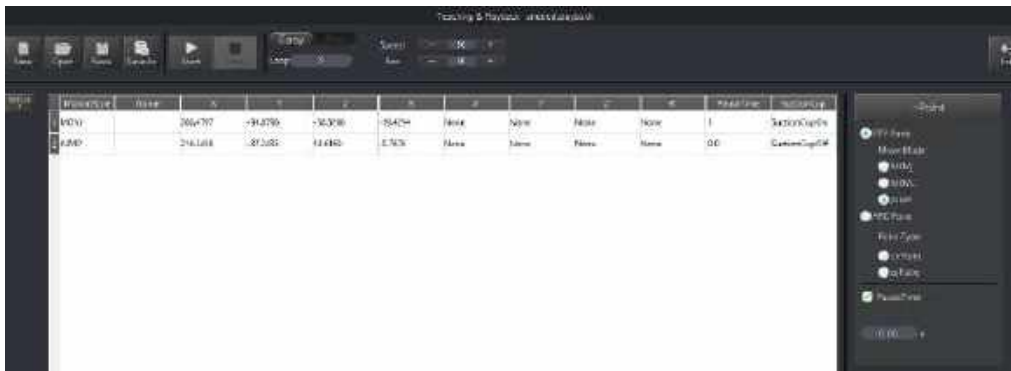

Figure 5.24 Save the end position B
5. Click **+Point** to save the coordinate corresponding to the position B, as shown in Figure 5.24.